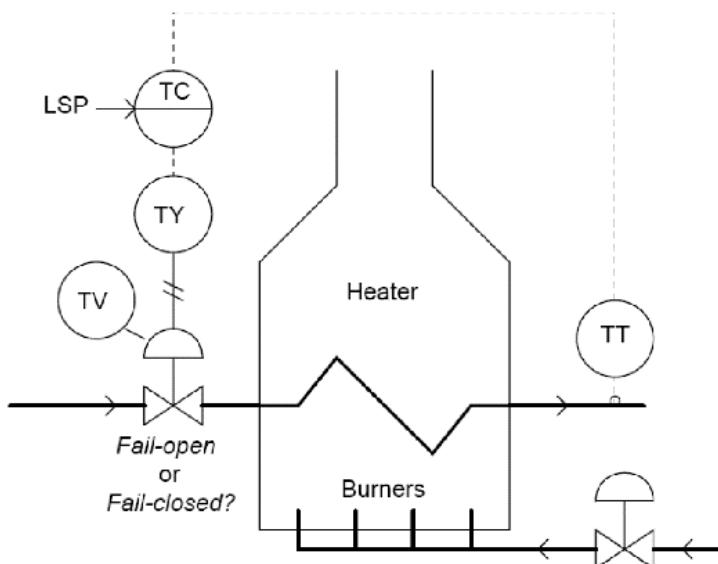

Figure 3 (b)/ Rajah 3(b)
- CLO2 (b) Figure 3 (b) shows the utilization of control valve to throttle the flow of crude oil through a heater, fired by natural gas burners. The flow is normally controlled on the basis of the crude oil's exiting temperature from the heater. In this particular application, provide the best type of control valve and the reason.